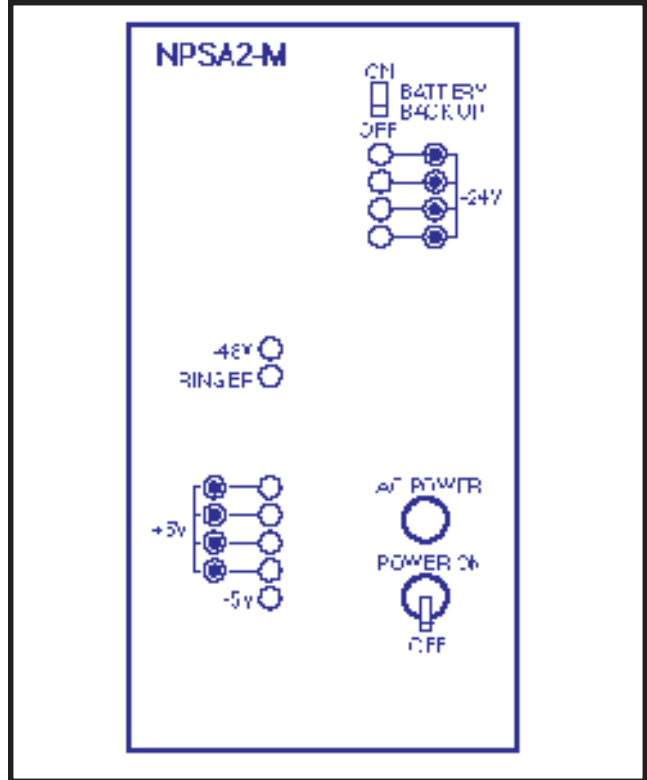

FIGURE 4-5—PERCEPTIONe
- 19) Set the **BATTERY BACKUP** switch to **ON** (Figure 4-5).